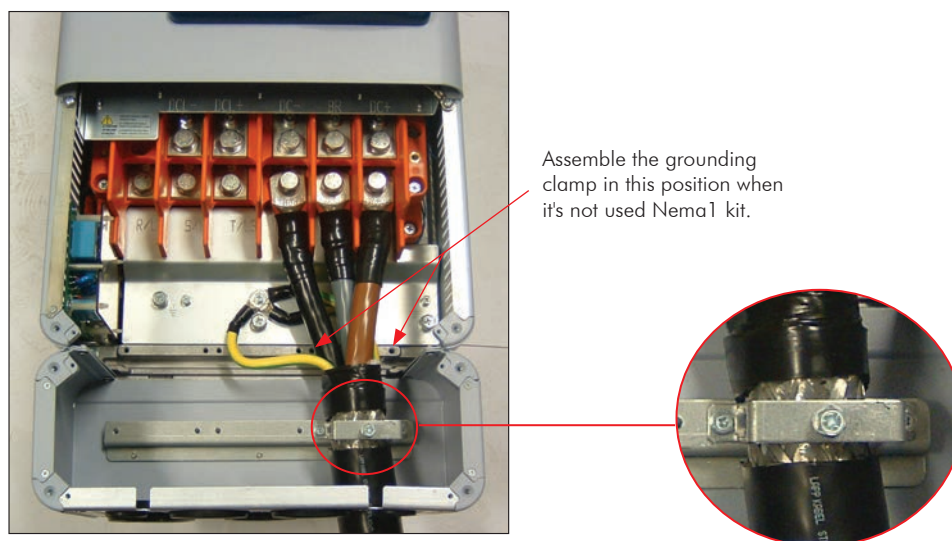

Figure 3.16 - Example of the motor cable shield connection at the inner part of the Nema1 kit supplied with the product
- (1) SCu = copper or aluminum external shielding.
- (2) AFe = steel or galvanized iron.
- (3) PE = ground conductor.
- (4) Cable shielding shall be grounded at both ends (inverter and motor). Use 360° connections for a low impedance to high-frequencies. Refer to figure 3.16.
- (5) For using the shield as a protective ground, it shall have at least 50 % of the power cables conductivity. Otherwise, add an external ground conductor and use the shield as an EMC protection.
- (6) Shielding conductivity at high-frequencies shall be at least 10 % of the power cables conductivity.
- ❑ Connection of the motor cable shield to ground: Make a connection with low impedance for high frequencies. Example in the figure 3.16. In inverters without the Nema1 kit, connect the motor cable shield to the ground in a similar mode, with the clamp at the inverter inner part, according to the figure 3.16.